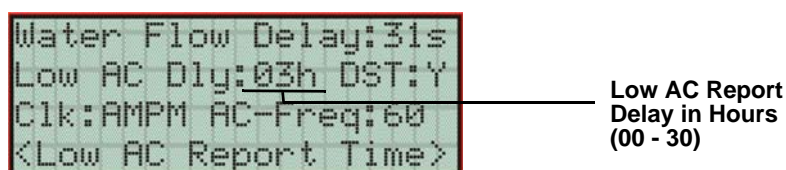

Figure 7-19 Low AC Report Delay Programming Screen
8. Enter the number of hours before a low AC report will be sent to the central station, then press . Refer to Figure 7-19.